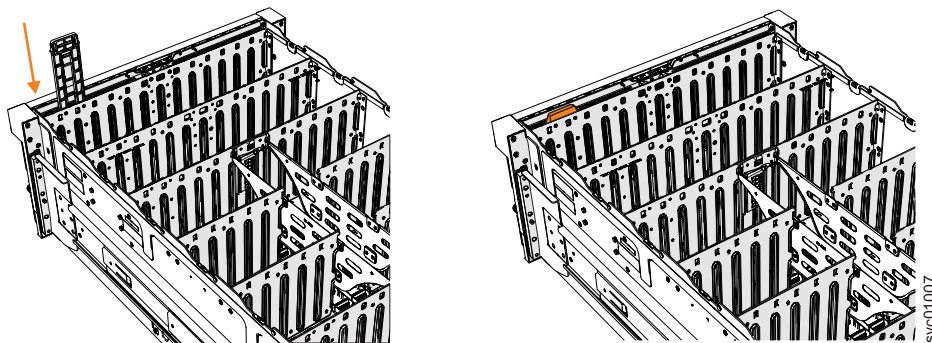

Figure 111. Installing the display panel assembly
2. Carefully align the display panel assembly in the slot at the front of the expansion enclosure, as shown in Figure 111 on page 119.